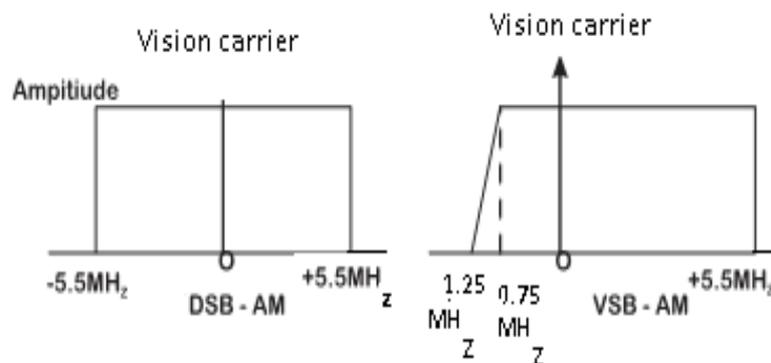

Fig.2.5 (b) VSB in Frequency Domain
- ❖ Fig 2.5(b) shows the VSB in frequency domain when it is used in TV transmission.